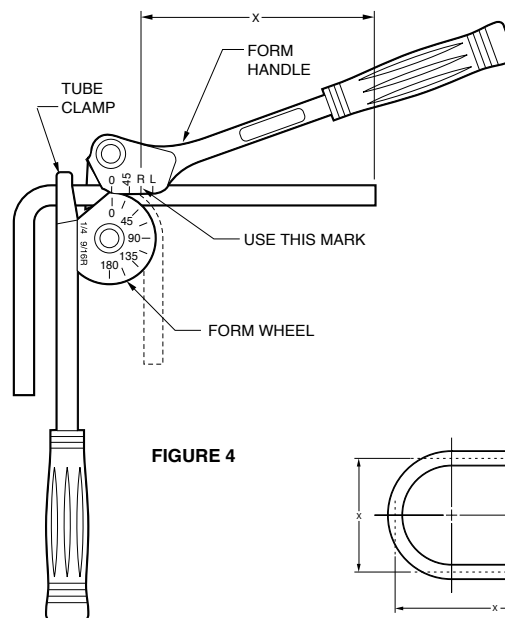

FIGURE 4
3. If the end from which you measured is placed to the right clamp, set the mark on the tube directly over graduation "R" located on the form lever and shown in Fig. 4. With a steady motion, pull form lever handle around until the "0" mark on form handle is directly opposite the 90° mark on form wheel.